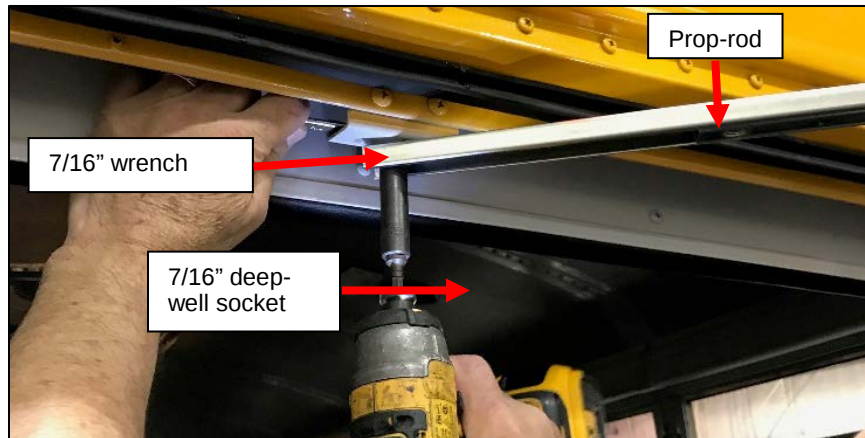

Figure 2: Removing the Prop-Rod (Body Side Removal Shown)
- Using a 7/16 inch deep-well socket and wrench, remove the prop-rod (disconnect on both the body side and door side) and discard. (Note that extra bolts, nuts, and washers will be provided.) See **Figure 2**.